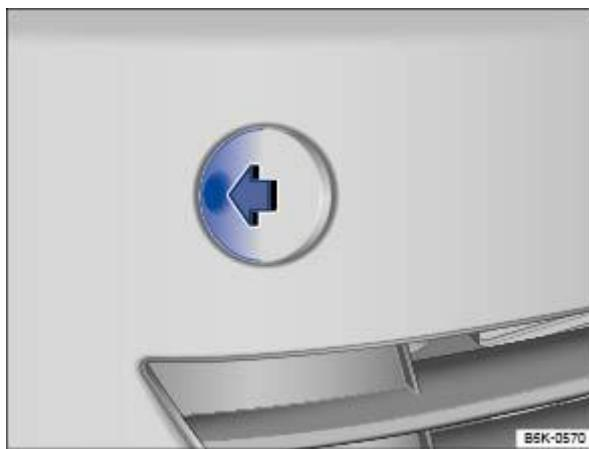
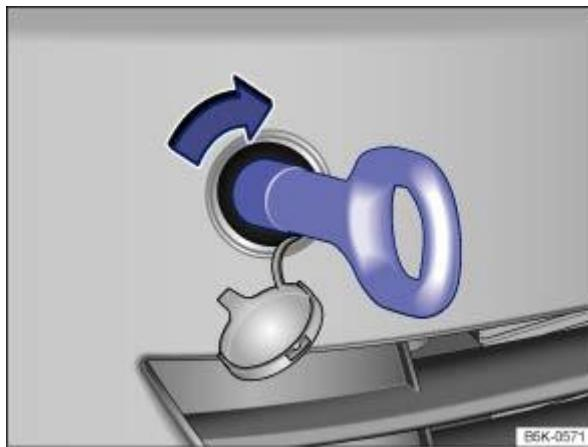

Fig. 180 In the front bumper on the right: removing the cover.
Fig. 181 In the front bumper on the right: screwing in the towing eye.
⇒ Fig. 180 .
- ② Remove the towing eye from the vehicle toolkit in the luggage compartment ⇒ Vehicle toolkit .
- ② Press at the side of the cover ⇒ Fig. 180 (arrow) to release the cover.
- ② Press in the left area of the cover ⇒ Fig. 180 (arrow) to release the cover.
- ② Pull the cover forwards to remove it and leave it to hang from the vehicle.
- ② Turn the towing eye clockwise into the mounting ⇒ Fig. 181 and tighten as far as it will go ⇒ . Use a suitable object to screw the towing eye fully and securely into the mounting.
- ② After you have finished towing, remove the towing eye by unscrewing it anti-clockwise.
- ② Insert the cap in the respective recess and press in until it engages.
- ② Clean the towing eye if necessary and place it back in the vehicle toolkit in the luggage compartment.